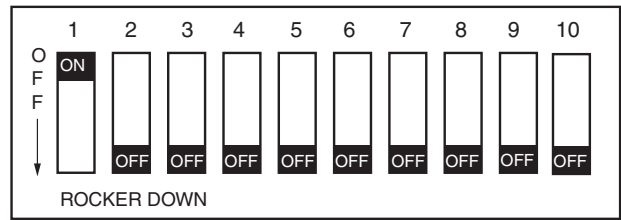

Fig. 38 — CoreSense Communication DIP Switch Settings for Kriwan Retrofit
2. Review the DIP switch settings on the CoreSense module. DIP switch no. 1 should be ON (up position) and all other DIP switches should be OFF (down position). See Fig. 38.